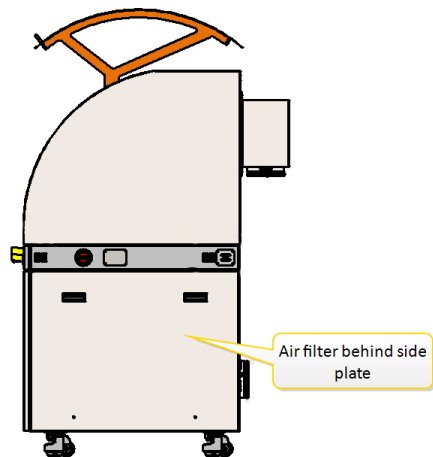

Figure 4-28 Pressurized air filter location
1. Find the pneumatic air filters in the PICOMASTER, see Figure 4-28.